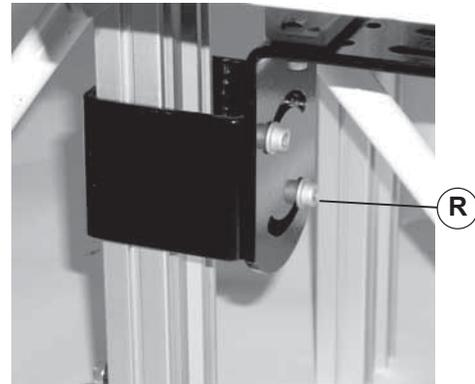
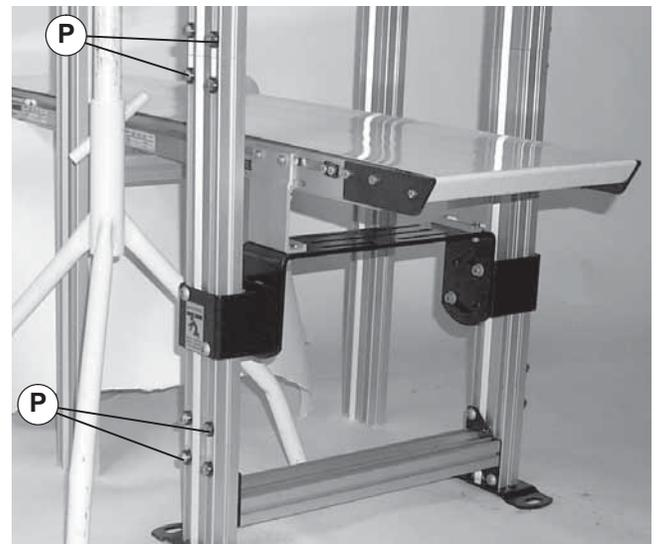

Figure 14
Figure 15
2. Remove two flange socket head screws (Figure 14, item R) from the conveyor to be serviced.
3. Loosen eight screws (Figure 15, item P).
6. Reverse steps to reinstall stand section (Y) and leg support bracket (H) on multi tier stand when service is complete.
7. Tighten eight screws (Figure 15, item P) to 130 in-lbs (15 N-m) and two flange socket head screws (Figure 14, item R) to 24 ft-lb (33 N-m).